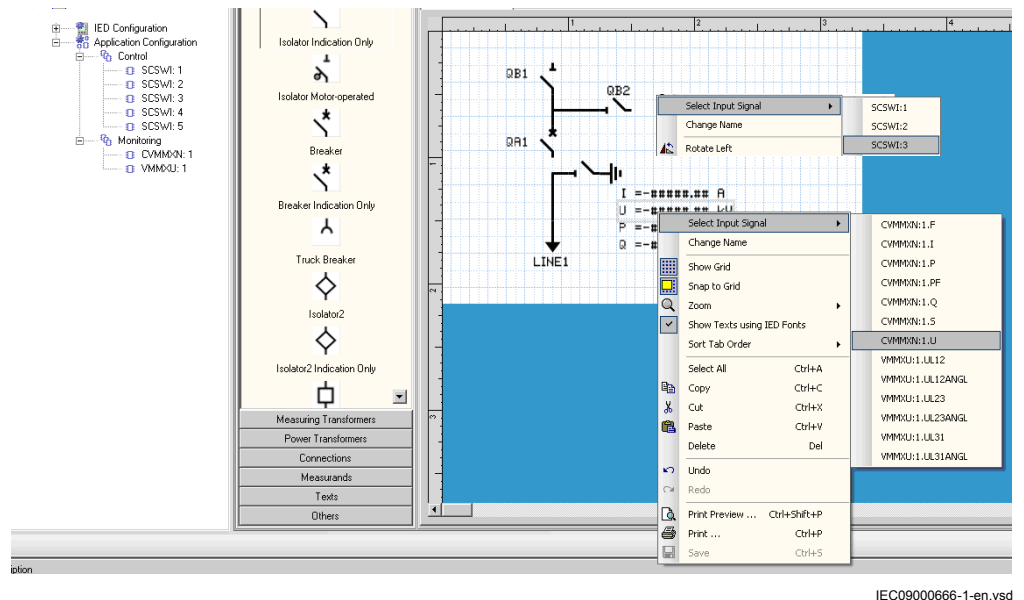

Figure 68: GDE: Establish a dynamic object link
8. Select each object that has a dynamic link and do the link to the corresponding process object, see Figure 68.